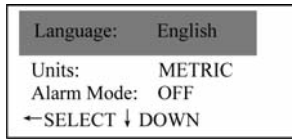

Figure 21
- c. Use the  $\downarrow$  or  $\uparrow$  key to select system setting, press  $\leftarrow$  to enter as figure 21.
$\pm$  indicator will be displayed if the differential mode is switched on. When readings are higher than the target value, the differential indicator will display +, when the measured value is lower than the target value, the differential indicator will display -. To disable differential mode, select "Diff Mode off" in figure 21